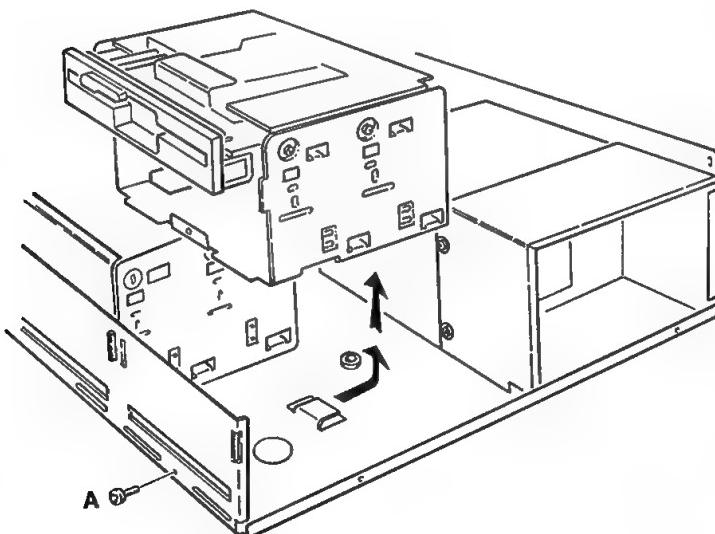

Figure 4-5: Typical Drive Bracket Assembly Removal
- Refer to Figure 4-5 and remove the single screw (labeled A) that secures the drive bracket. Slide the drive bracket approximately one-half inch toward the rear of the computer, then lift the assembly carefully out of the computer chassis.